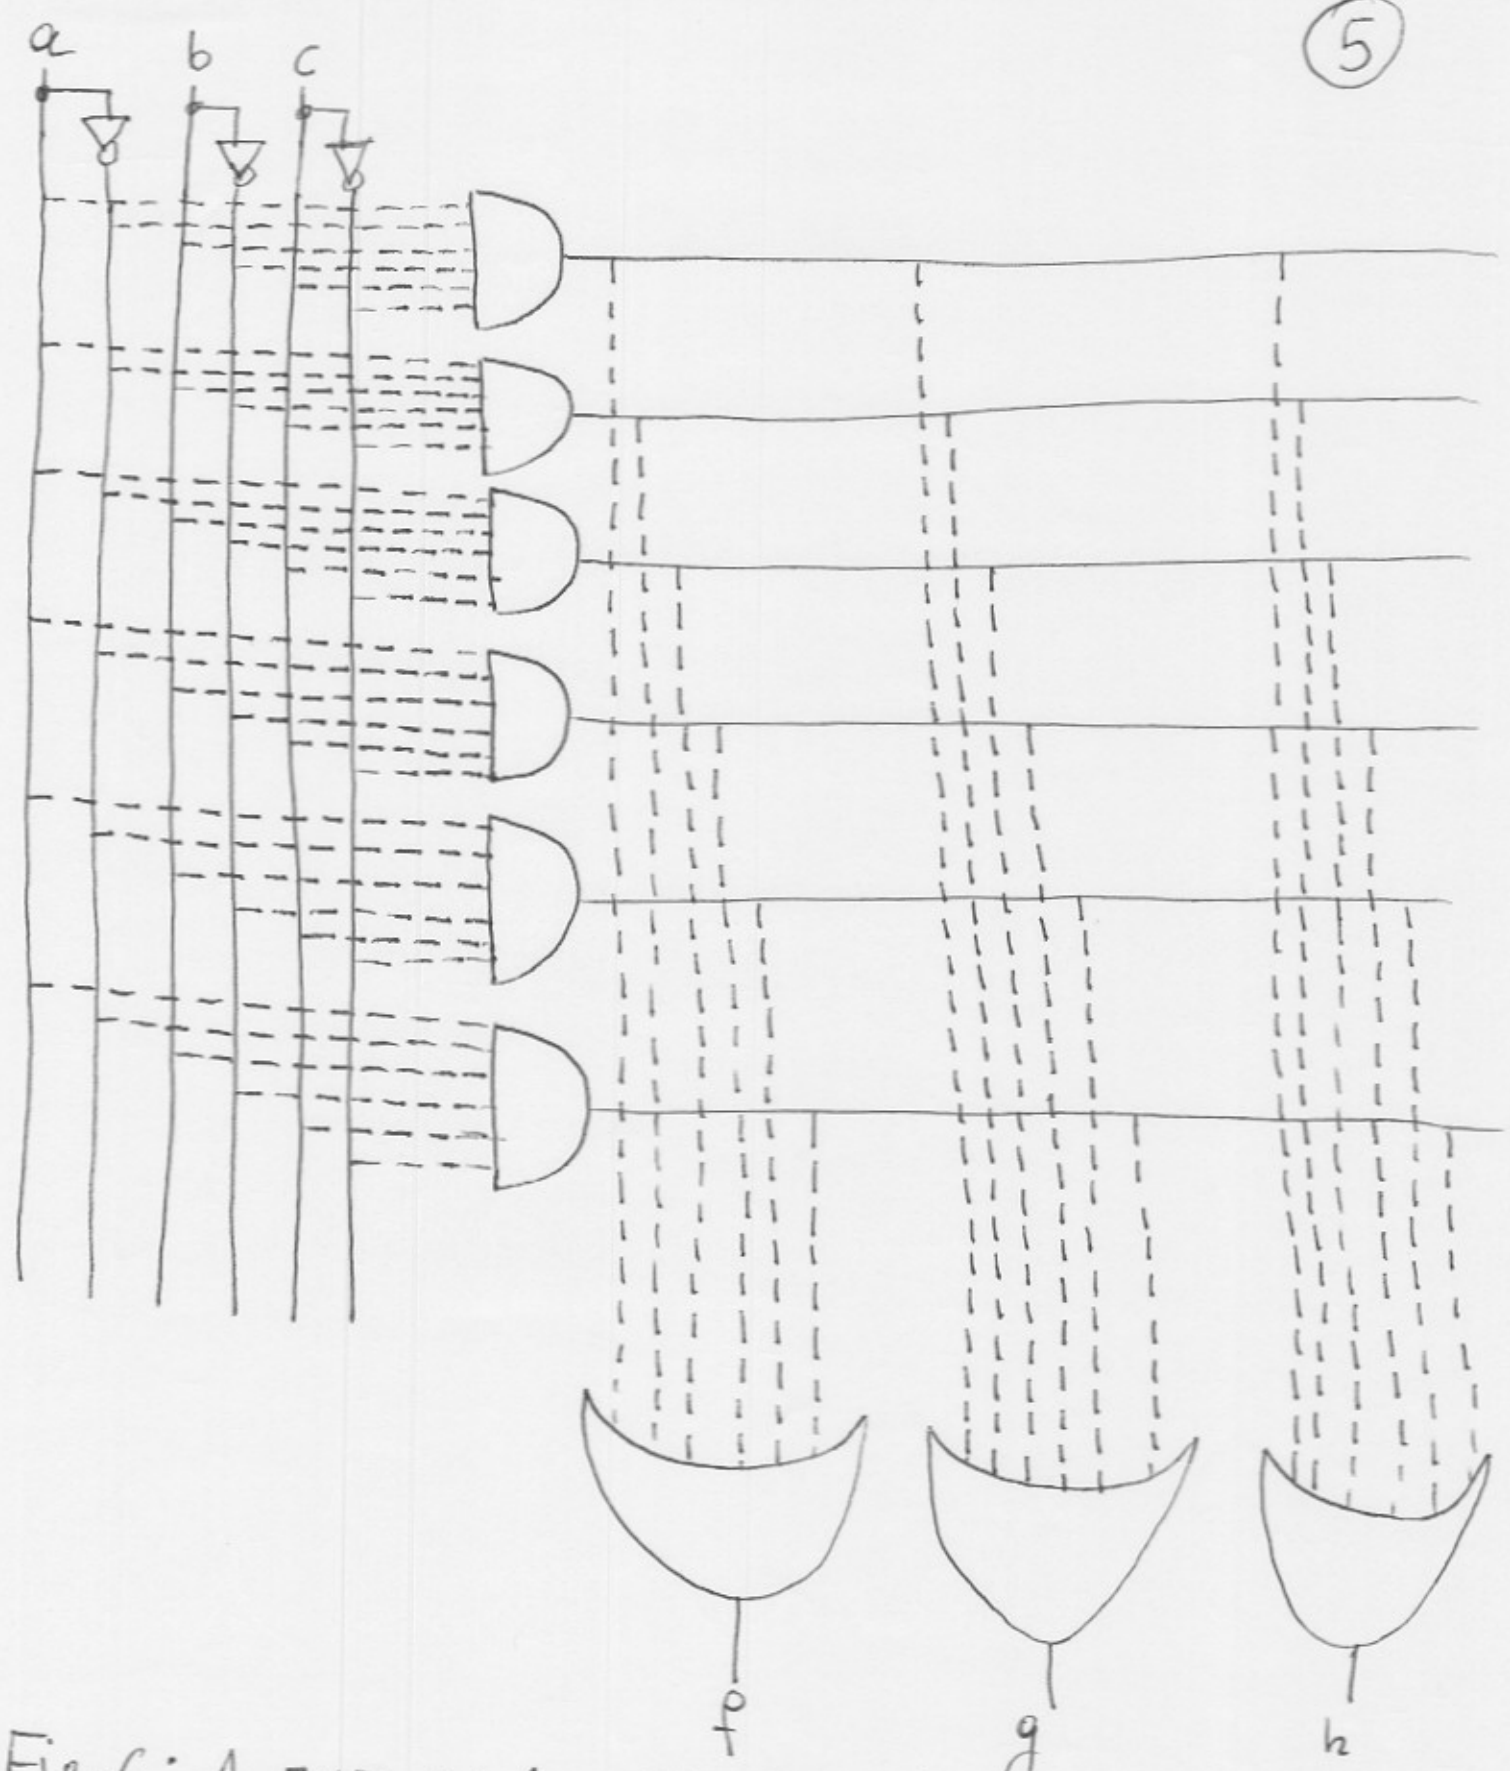
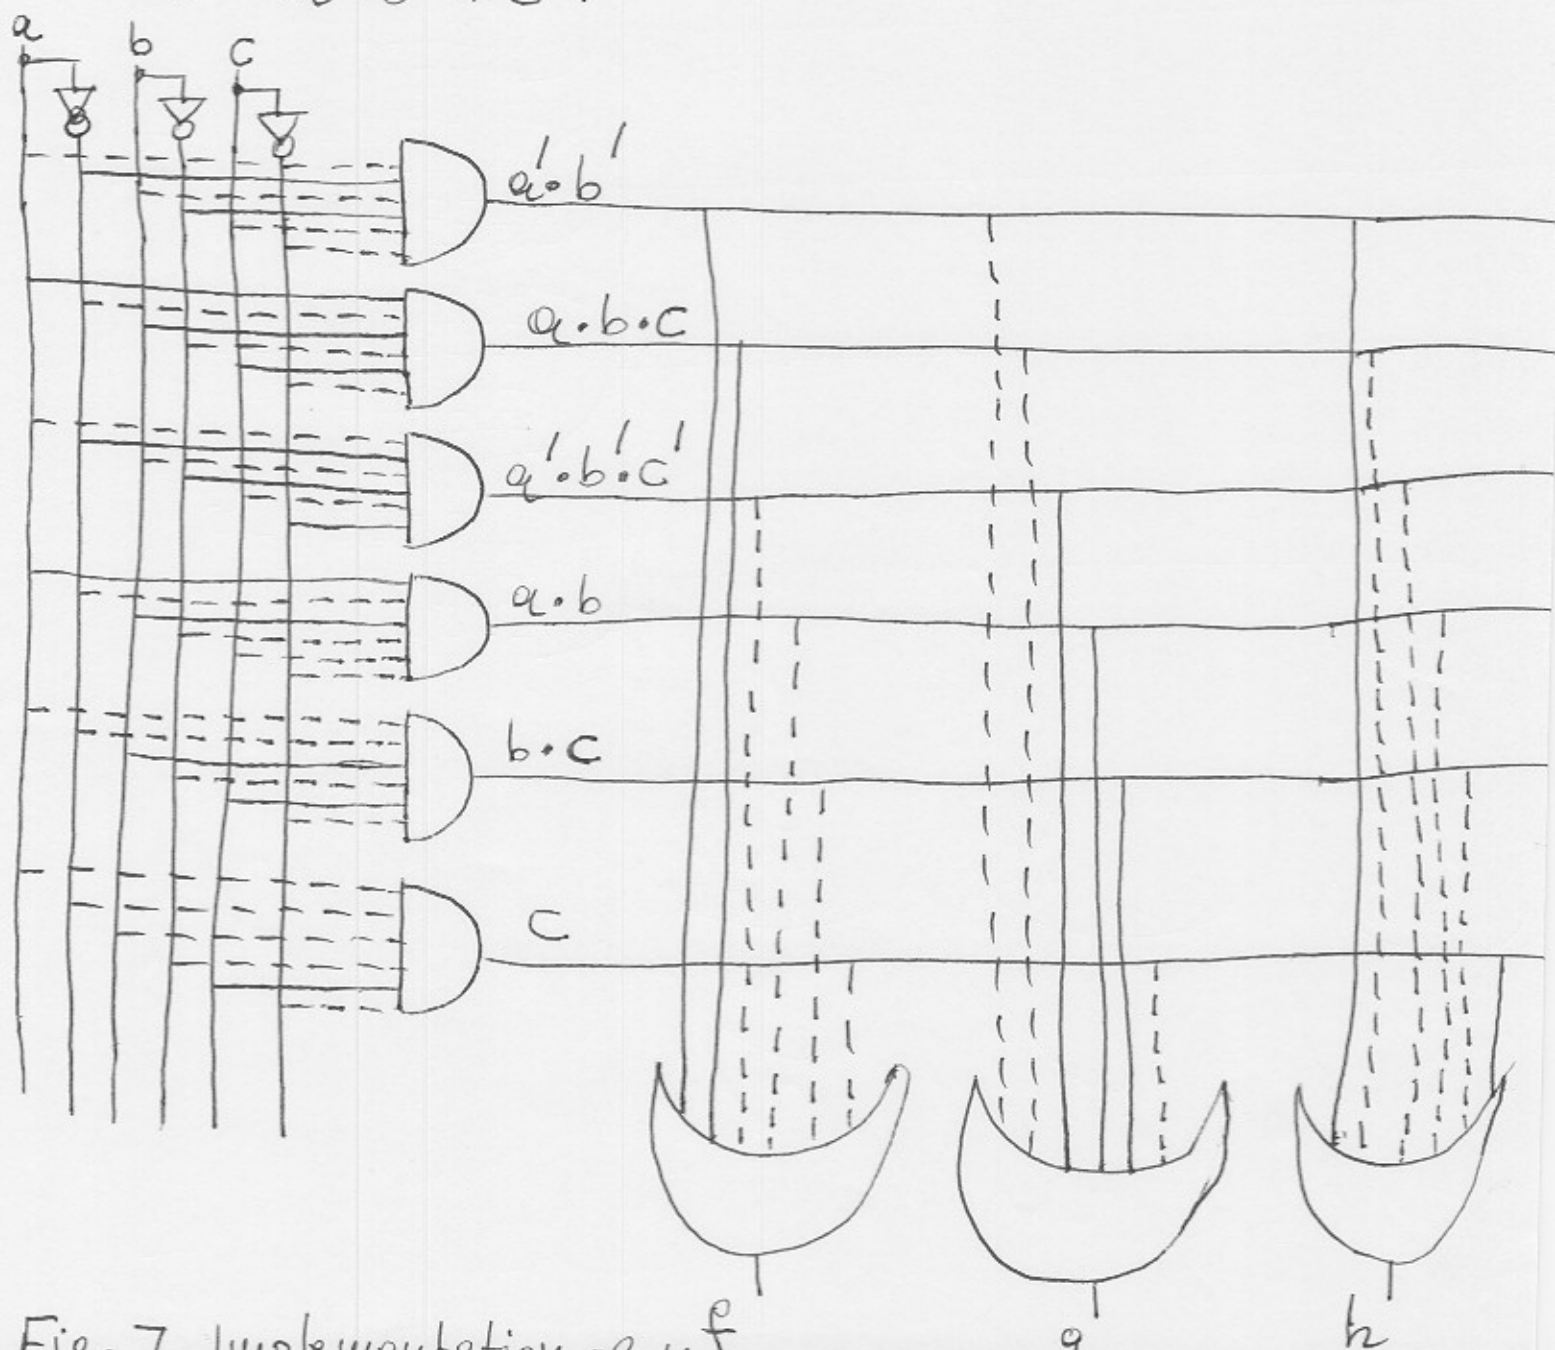
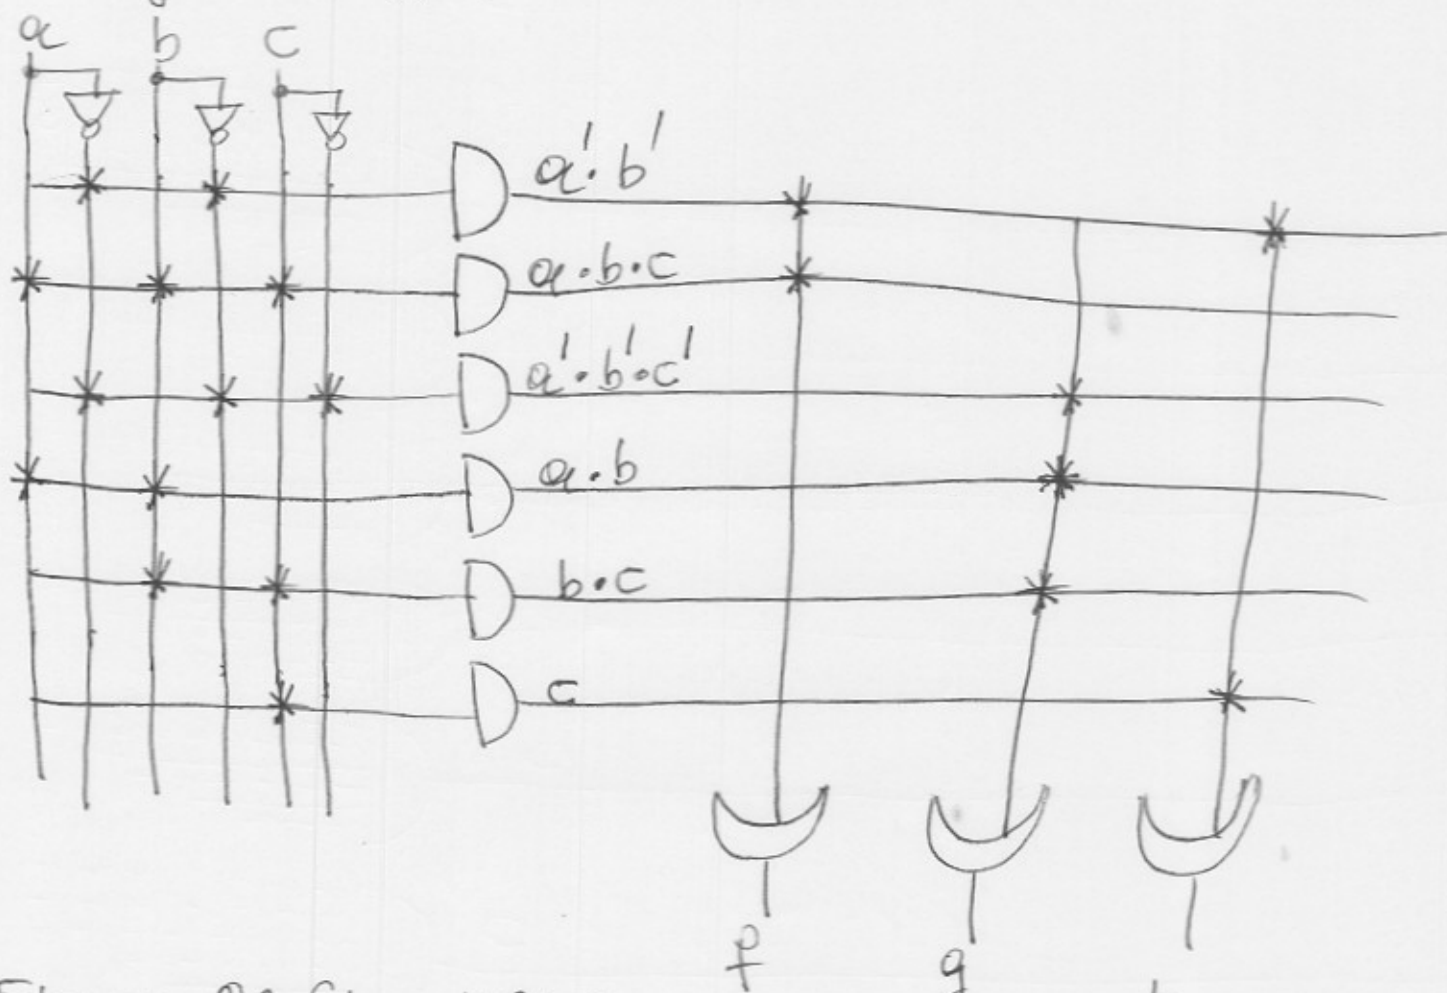

Fig. 6: A 3x3 PLA with 6 product terms before programming it. The inputs to the PLA are a, b, c. The outputs are f, g, h. The inverters are internal.
Fig. 7. Implementation of three specific functions f, g, h using the PLA of fig. 6. (It is a 3x3 PLA with 6 product terms). Solid lines indicate connections.
Figure 8: Simplified version of the figure 7 of the previous page.
Figure 6 on next page shows a 3×3 PLA with 6 product terms before programming it.
In figure 6, the dashed lines indicate possible connections, not made yet. (6)
Fig. 7 shows the PLA of fig. 6 programmed to implement f, g, h shown below:
Note: The version of the diagram like the ⁽⁷⁾ one of fig. 7 is rather cumbersome, particularly as the number of inputs and number of gates increase. Thus, rather than showing all the wires, only a single input line is usually shown for each gate, with *s or dots shown at the intersection where a connection is made. This is shown in figure 8 below: